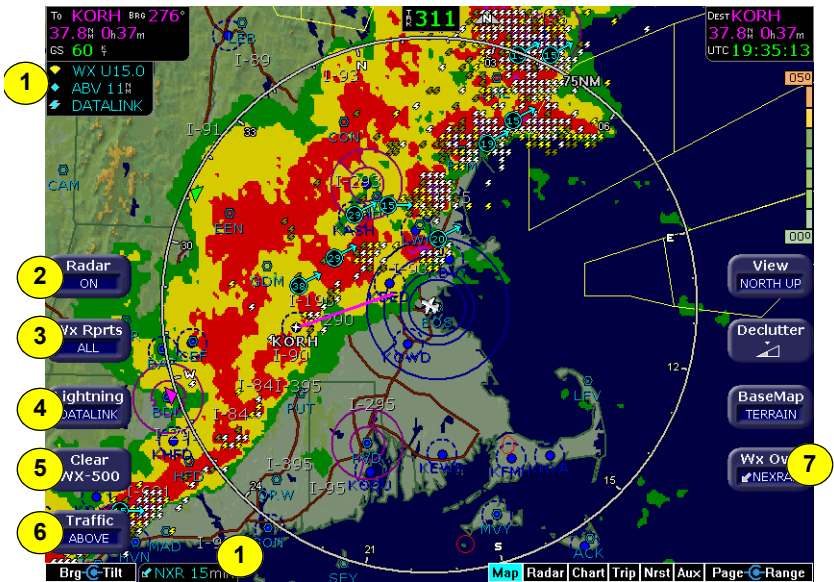

Figure 10.2 Datalink Weather—Map Page
- 1) **Sensor Status Block**—The Sensor Status Block gives the status of the weather information presented. The Lightning sensor status reflects whether the lightning information displayed on the Map is from Datalink or from an on-board lightning sensor, if installed. If space is available, the Datalink sensor status, which includes the age of the most recent NEXRAD radar image, is shown on the bottom line of the upper block. If optional sensors are installed, the Datalink sensor icon is displayed in the lower left portion of the screen (as shown in Figure 10.2).